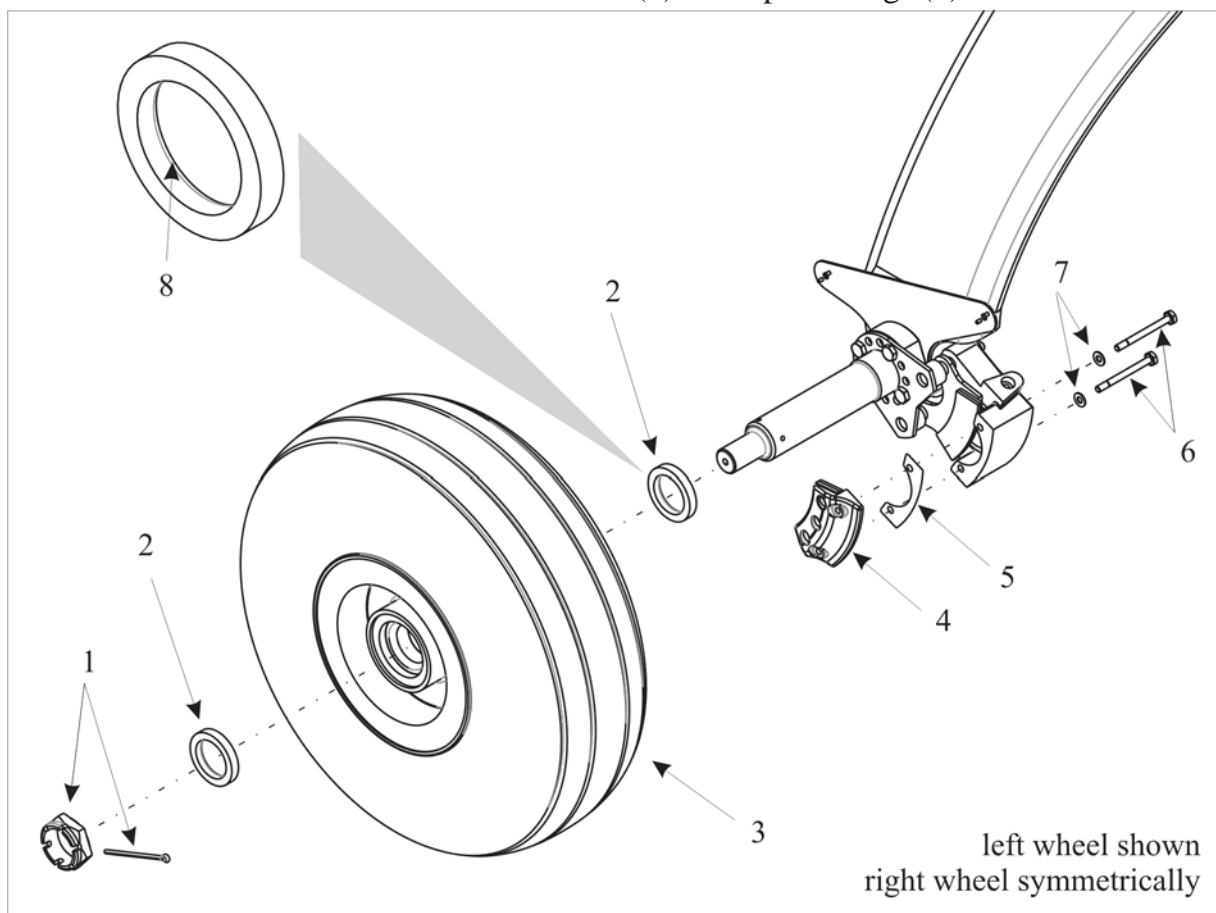

Figure 4
The brake system (refer to Figure 4) consists of a brake assembly located at the inner side of the wheel, a master cylinder (1) at each rudder pedal, and a brake fluid reservoir (2) mounted at the engine side of the firewall. The particular parts of the brake system are interconnected by brake lines consisting of aluminium tubes and flexible KNAPP hoses.
Refer to Figure 4.